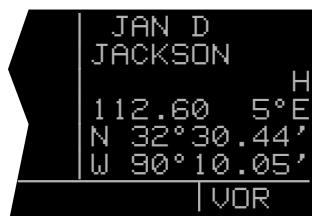

Figure 3-67
1. Make sure you have turned the right cursor off from the previous example. Now rotate the right outer knob to display a VOR type page (figure 3-67).